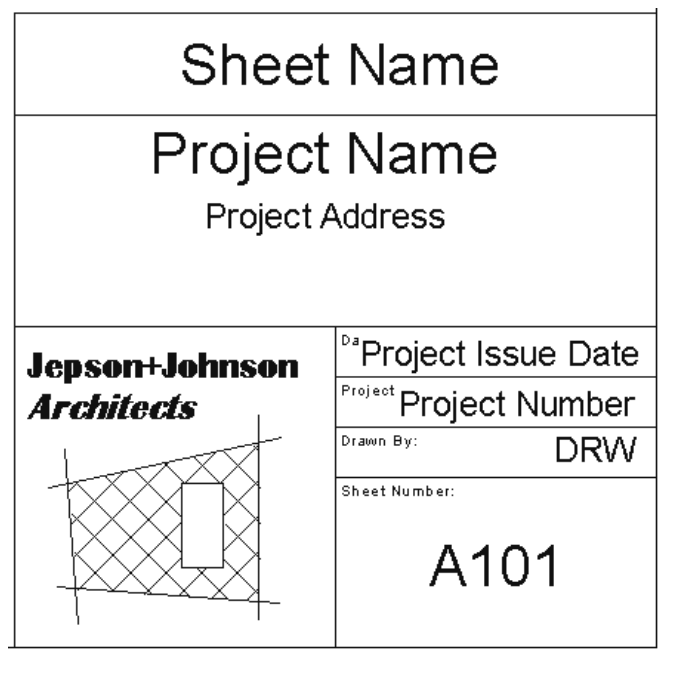

Figure 1–41
9. Create a graphic and company name of your own design in the lower left box, for example Jepson+Johnson Architects, as shown in Figure 1–41. Using the following steps, add text, labels, and graphics to the title block.